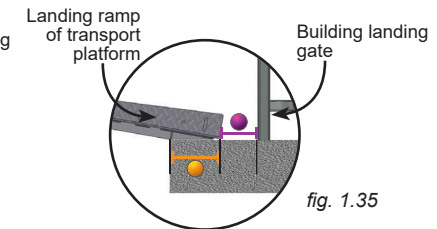

fig. 1.35
- 5- Building landing gates must be installed at no more than 4" (10 cm) from the front edge of the ramp, as shown in fig. 1.35.